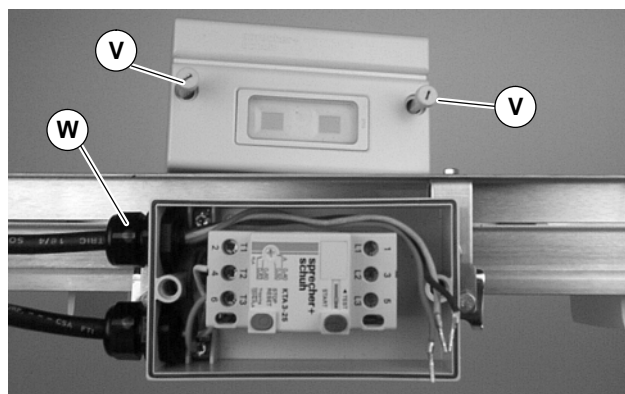

Figure 14
- Loosen cover screws (V of Figure 14) and remove cover.
- Replace starter cover and tighten screws (V of Figure 14).